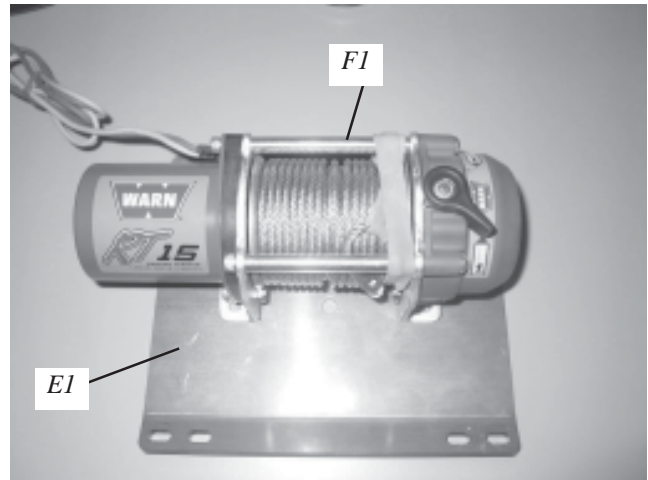

Figure 3 Mount winch to mounting plate
1. Attach winch (F1) to winch mounting plate (E1) using M8 hardware found in winch kit. See Figure 3. Tighten M8 hardware to torque specifications found on page 2.